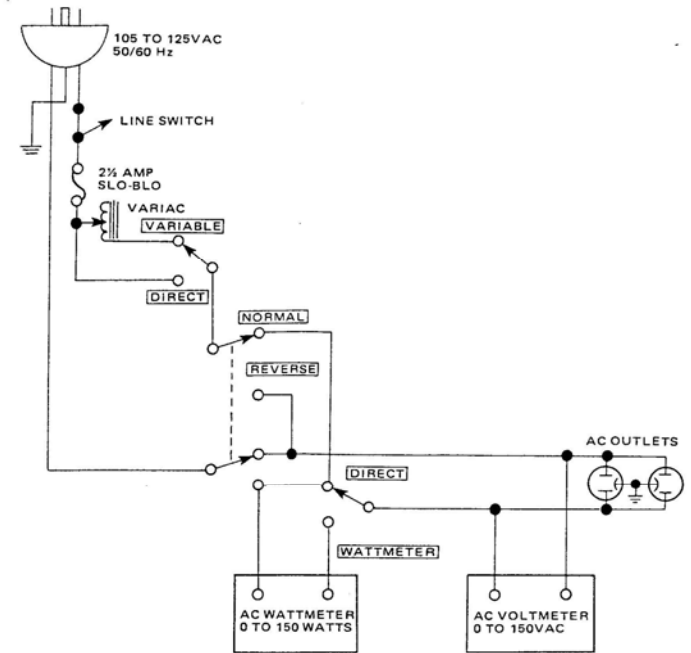
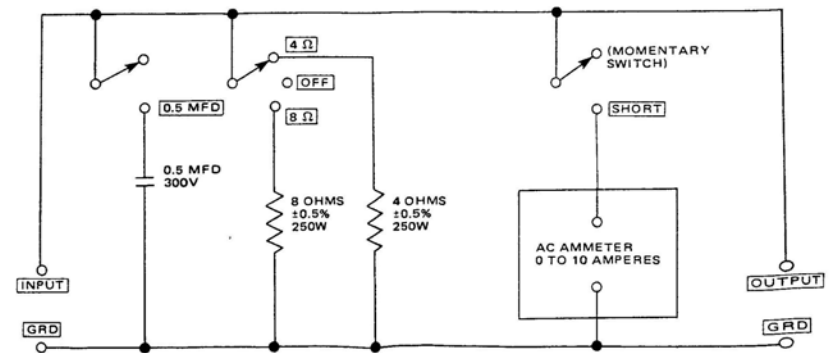

Figure 1. AC Power Control Box Simplified Schematic
Figure 2. Amplifier Output Load Box Simplified Schematic
Table 1 lists the test equipment required for servicing the PM250/PM400 Stereo Console Amplifier. The wattmeter, AC voltmeter, and variable autotransformer may be assembled as a test fixture as shown schematically in Figure 1. The load resistors and AC ammeter may be assembled into a second test fixture as shown in Figure 2.
- Make the test setup shown in Figure 1 with the instrument controls set in the following positions: